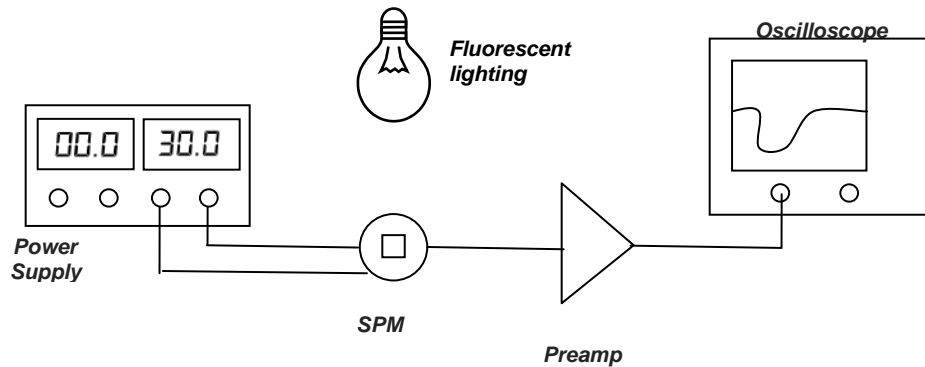

Figure 1, Experimental arrangement
- Using Figure 1 as a reference, connect the cable to the output socket on the SPM preamp and then to the oscilloscope (set to 50Ω input)
- Figure 1 can be used as a set-up reference, although for this experiment, there is no need for the fluorescent lighting – In fact, ambient lighting should be reduced as much as possible.